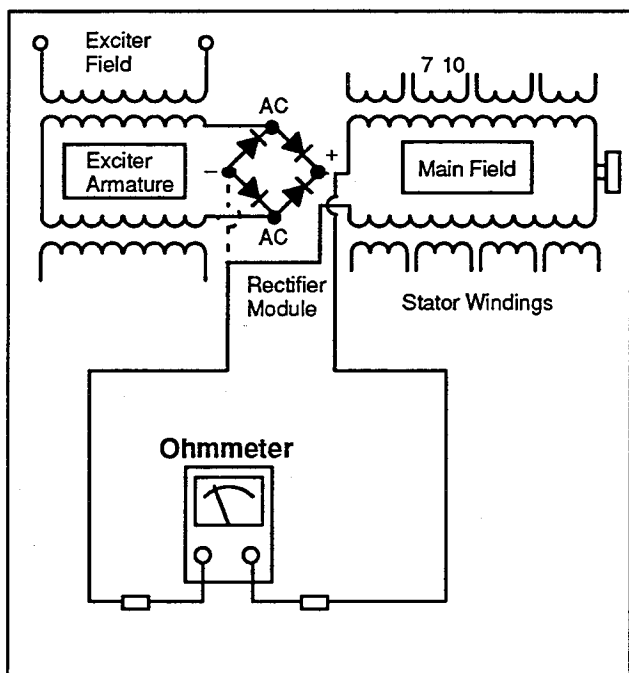

Figure 8-10. Ohmmeter Connections on Main Field
2. Check main field resistance by connecting an ohmmeter across main field F+ and F- leads. See Figure 8-10. The resistance reading for a cold main field is found in Section 1. Specifications. A low reading indicates an internal short and a high reading indicates an open winding. Repair or replace main field if ohmmeter readings indicate main field is defective. If the resistance test proves inconclusive, perform a megohmmeter test on the main field as described in the next step.